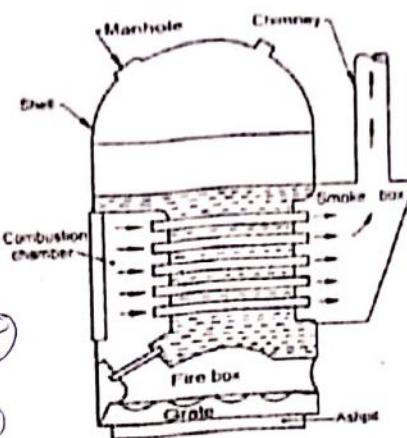

Fig. 3.1 Cochran Boiler
① These are various designs of vertical multitubular boilers. A Cochran boiler is considered to be one of the most efficient type of such boilers. It is an improved type of simple vertical boiler.
② This boiler consists of an external cylindrical shell and a fire box as shown in Fig. 3.1. The shell and fire box are both hemispherical. The hemispherical crown of the boiler shell gives pressure of steam and strength to withstand the pressure of steam inside the boiler. The hemispherical crown of the fire box is also advantageous for resisting intense heat. The fire box and the combustion chamber is connected through a short pipe. The flue gases from the combustion chamber flow to the smoke box through a number of smoke tubes. Then tubes generally have 62.5 mm external diameter and are 165 in number. The gases from the smoke box pass to the atmosphere through a chimney. The combustion chamber is lined with fire bricks on the shell side. A manhole near the top of the crown on the shell is provided for cleaning.